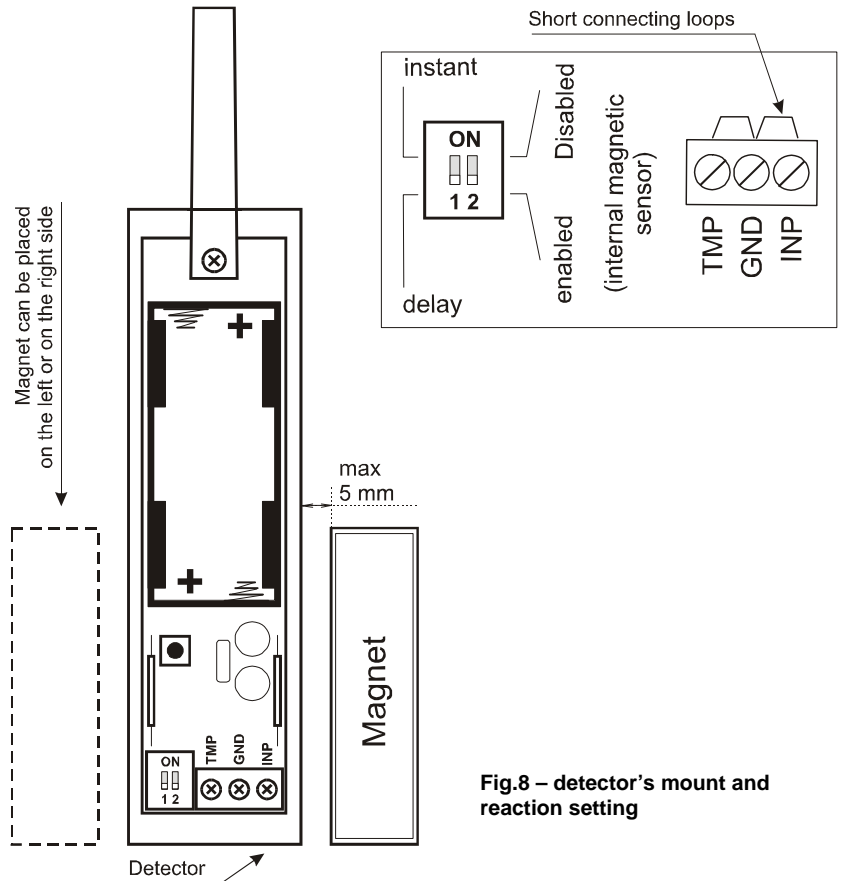

Fig.8 – detector's mount and reaction setting
- Attach the magnet, using the provided screws, to the moving part of the door or window, and attach its cover. The gap between the detector and magnet should not be wider than 5mm when the door is closed (see fig. 8)
- Use DIP switch no. 1 to select if the reaction of the system to the door opening should be instant or delayed (main entrance door). Switch no. 2 must stay in the OFF position. See fig. 8.